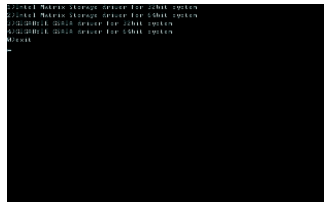

Figure 2
Step 2: When the controller menu (Figure 2) appears, remove the startup disk and insert the blank formatted disk. Select the controller driver by pressing the corresponding letter from the menu and press <Enter>. For example, from the menu in Figure 2, for Intel ICH10R SATA controllers, select 1)Intel Matrix Storage driver for 32bit system for Windows 32-bit operating system or 2)Intel Matrix Storage driver for 64bit system for Windows 64-bit^(Note 2). Your system will then automatically zip and transfer this driver file to the floppy disk. Press any key to exit when finished.
Use an alternative system and insert the motherboard driver disk. From your optical drive folder, double click the **Menu.exe** file in the **BootDrv** folder (Figure 3). A command prompt window will open similar to that in Figure 2.
(Note 2) The **GIGABYTE GSATA** drivers in the menu in Figure 2 are required if you want to install the Windows operating system onto hard drives that are connected to the **GIGABYTE SATA2/JMB322** controller and configured to AHCI mode in BIOS Setup. For installation of the driver during the OS installation, refer to section 5-1-4.